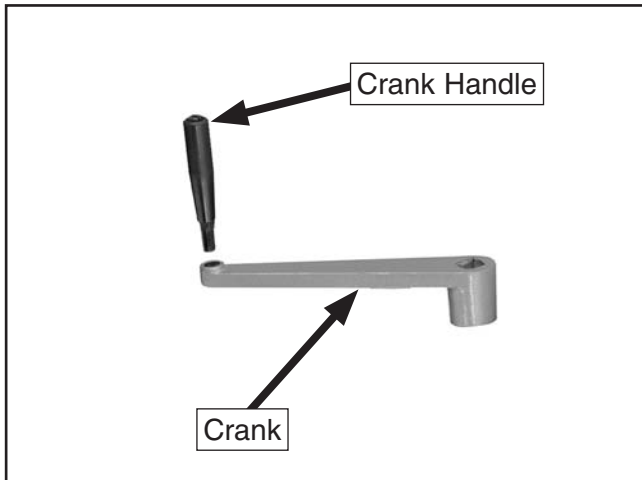

Figure 6. Crank assembly.
1. Thread the crank handle into the small end of the crank and tighten, as shown in **Figure 6**.